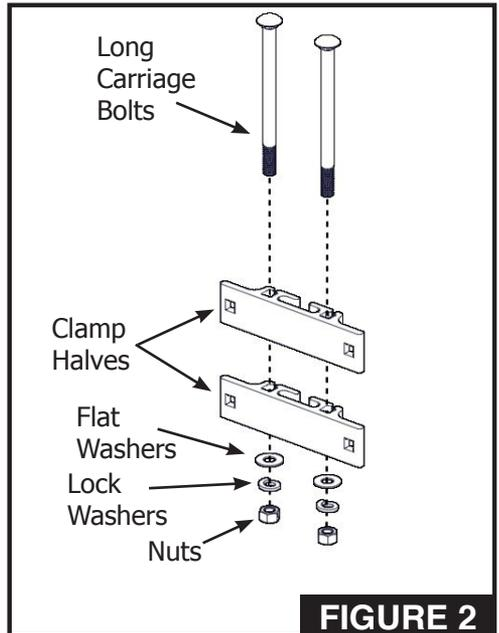

**FIGURE 1**
Insert (6) 1" carriage bolts through frame and gusset (orientate gusset as shown in Figure 1), secure with lock washer and nuts.